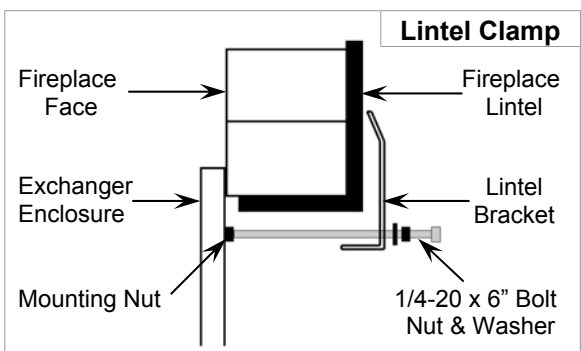

Figure 3
- Assemble two Lintel Clamps by threading an adjusting nut, a flat washer, and a Lintel Bracket onto the 6" long threaded bolts. **(Figure 3)**
- Rotate the Lintel Clamps up toward the top of the fireplace to grip the fireplace lintel and snug down the adjusting nuts. **(Figure 3)**